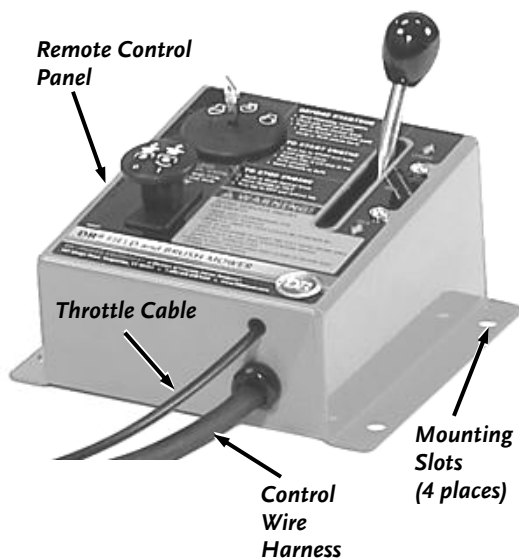

Figure 18
1. Locate the Remote Control Panel (Figure 18) on your Tow Vehicle within reach of the seated Tow Vehicle driver.